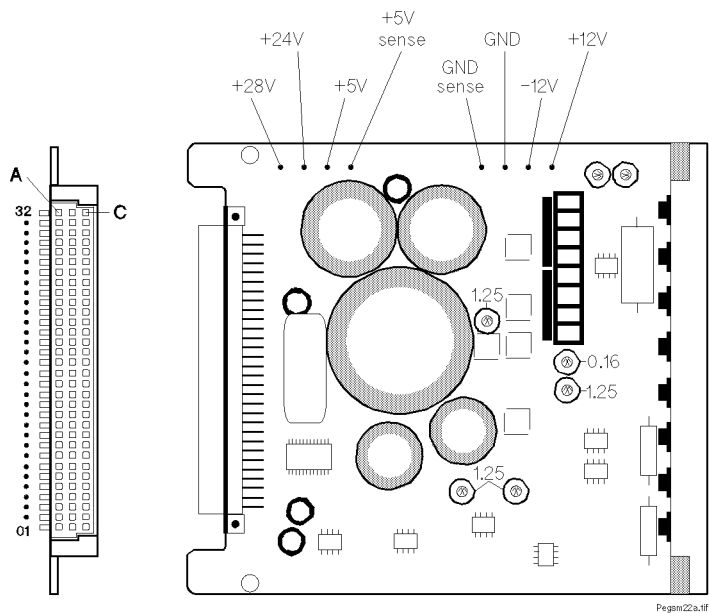

Figure 10-6 Power Supply Board
3. Using a DVM meter, check the voltage output from the pins as shown in Figure 10-5, and in Figure 10-6.